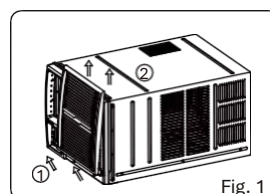

Fig. 1
2. Hold the bottom of the front panel and gently pull it out, then lift it and remove the front panel (see Fig. 1).